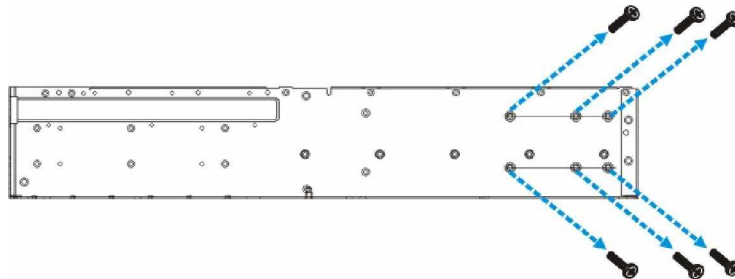

Figure 2-1: Enclosure Side Mounting Holes (1)
- Integrators may design their own brackets or slide rails using the twenty-two (22) mounting holes on the sides of chassis.
- There are six (6) mounting holes with six (6) M4 nuts near the end of the chassis on each side. Shown below are the locations of these mounting holes. (See the arrow marks in **Figure 2-1**). See the next diagram for another group of mounting holes on a horizontal line.